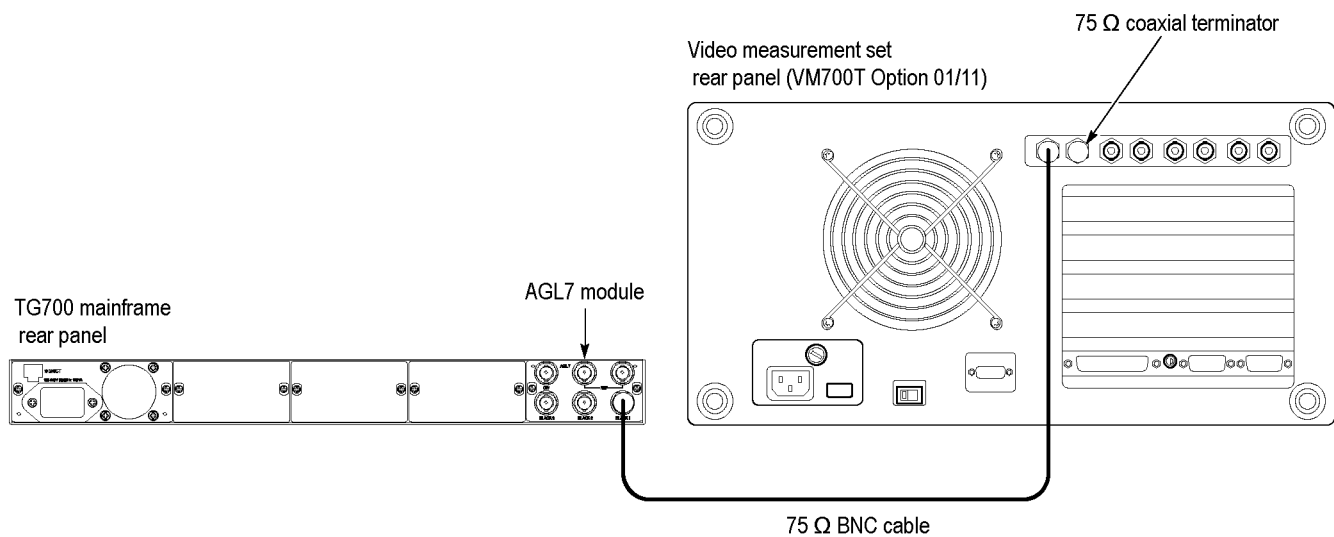

Figure 8: Equipment connection for verifying burst and sync amplitude
8. Disconnect the BNC cable from the 75 Ω feed-through terminator on the oscilloscope input, and then connect the BNC cable to the CHAN A connector on the video measurement set as shown in the following figure. (See Figure 8.)